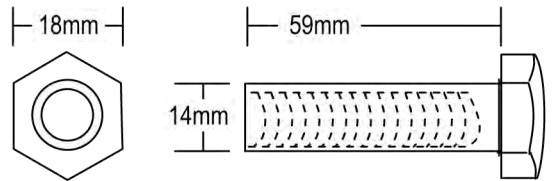

FIGURE 1
- Barrel Bolt measures approximately (L) 59mm x (T) 14mm x (H) 18mm as shown in Fig.1.